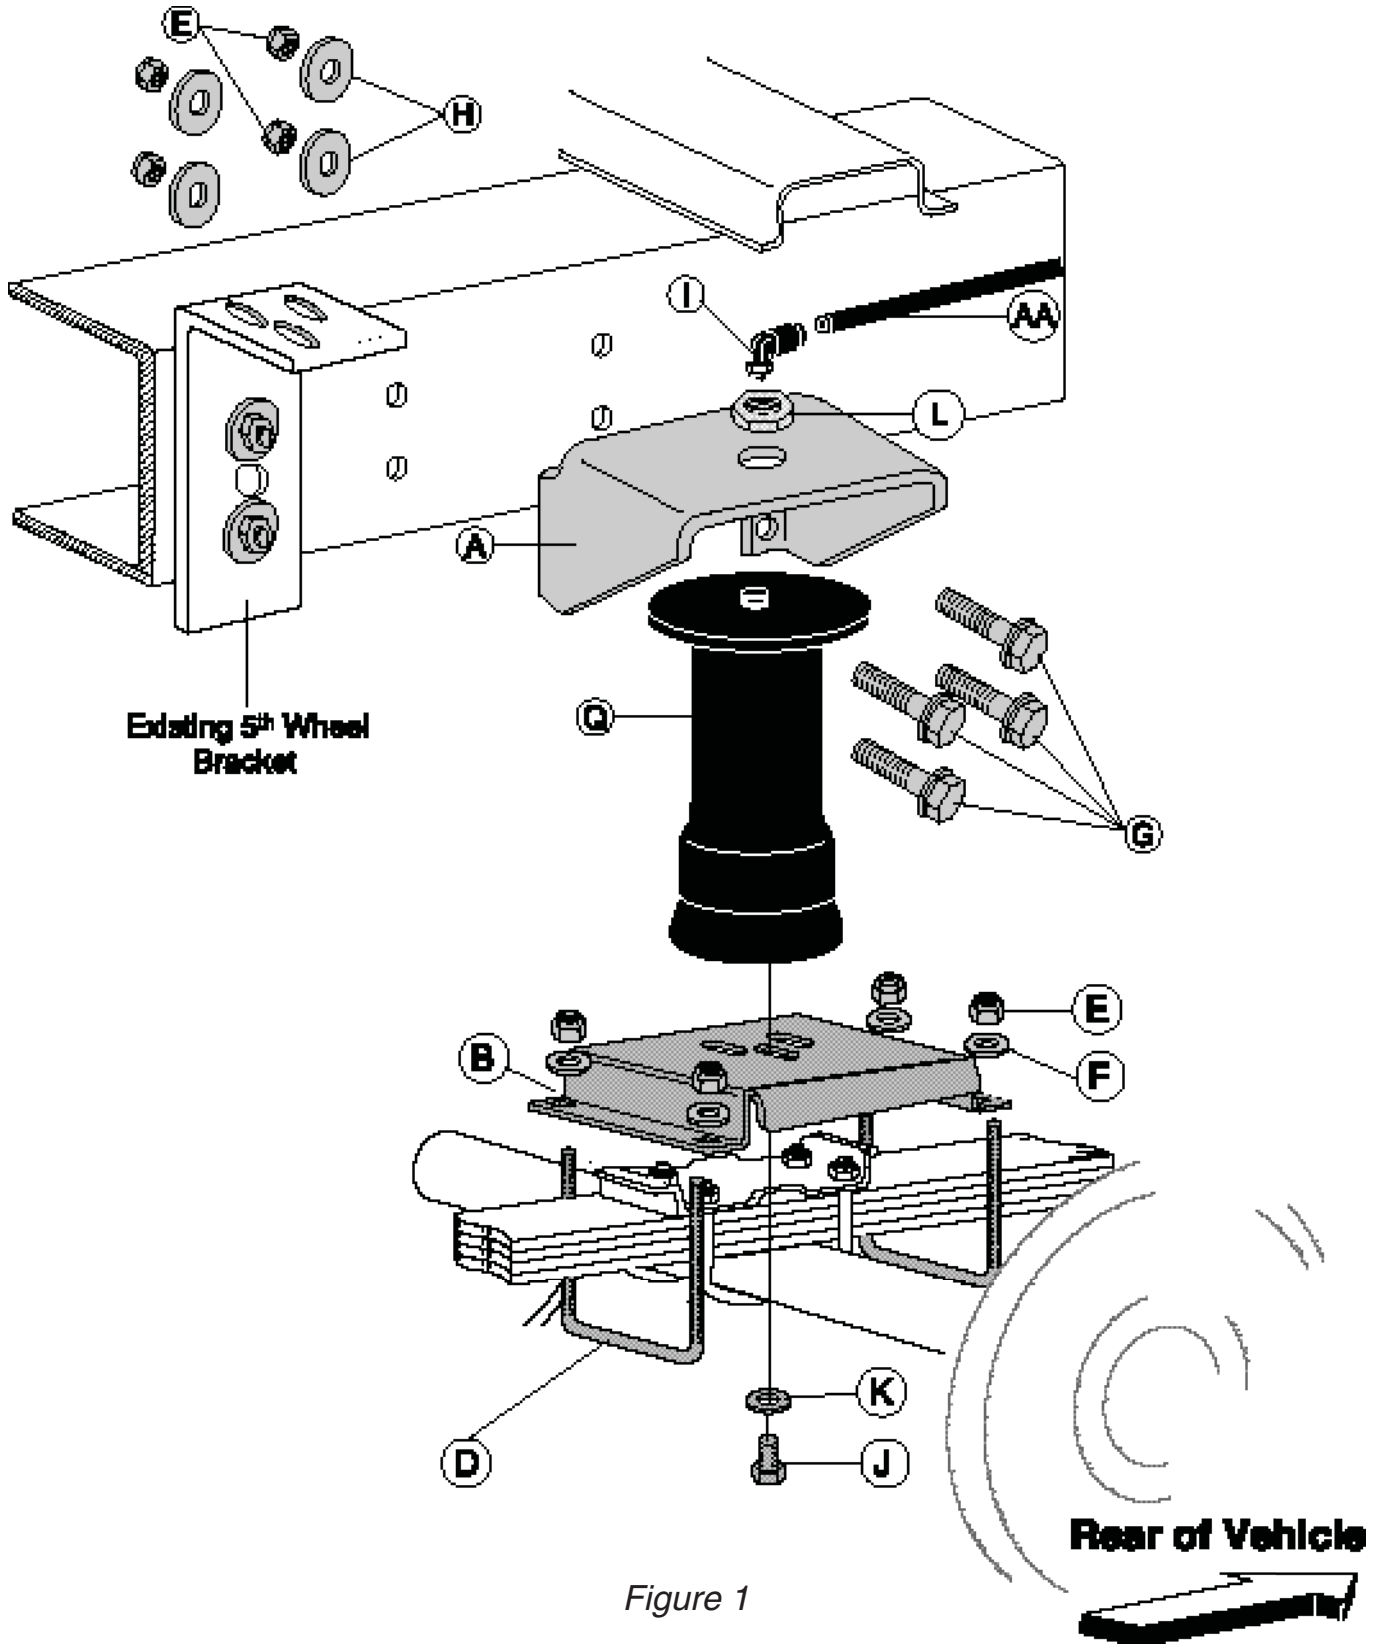

Figure 1
(* not shown in Figure 1)
3. Loosely install a washer head frame bolt (G), large flat washer (H), and nylock nut (E). Refer to Figure 1.
6. Replace the upper bracket to the mounting location and secure at the lower, forward mounting hole using washer head frame bolt (G), large flat washer (H), and nylock nut (E) as shown in Figure 1. Tighten securely.
7. Center punch and drill the remaining holes. Insert the washer head frame bolt (G), large flat washer (H), and a nylock nut (E). Tighten all frame bolts to 44 ft/lbs.
1. Install 90 degree air swivel fitting (I) to the top of the air spring (Q) (Figure 1). Use a $\frac{7}{16}$ " open end wrench being careful to tighten on the metal hex nut only. Tighten 1 and $\frac{1}{2}$ turns. Do not over tighten.
2. Guide the fitting through the center mounting hole in the upper bracket (Figure 1).
3. Attach the air spring to the lower bracket using flat washer (K) and bolt (J). Leave loose for later adjustment.
4. Install a nylon nut (L) over the air fitting and onto the upper threadpost of the air spring (Figure 1). Tighten to 4 ft/lbs.